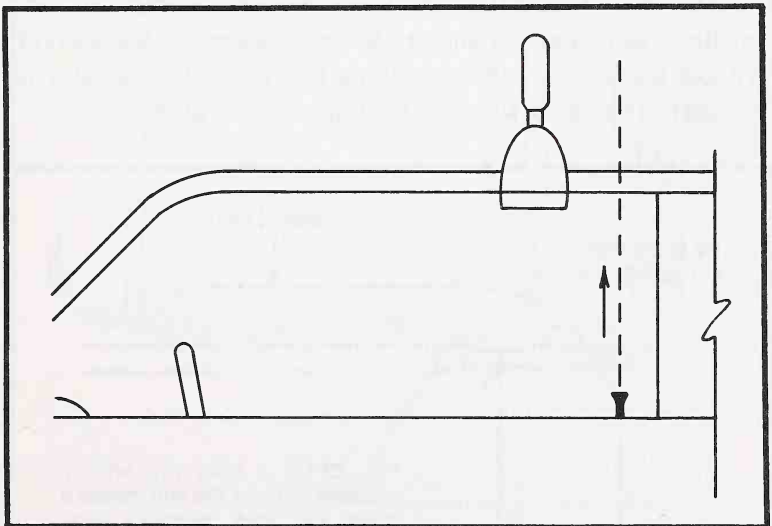

Fig. 23-10. Sometimes a paint scraper can be used to make room for a coathanger that can pull open a car pushbutton lock. (Courtesy Desert Publicatins.)
2. If the window is rolled up tight, force a paint scraper between the edge of the window and the insulation (Fig. 23-10).